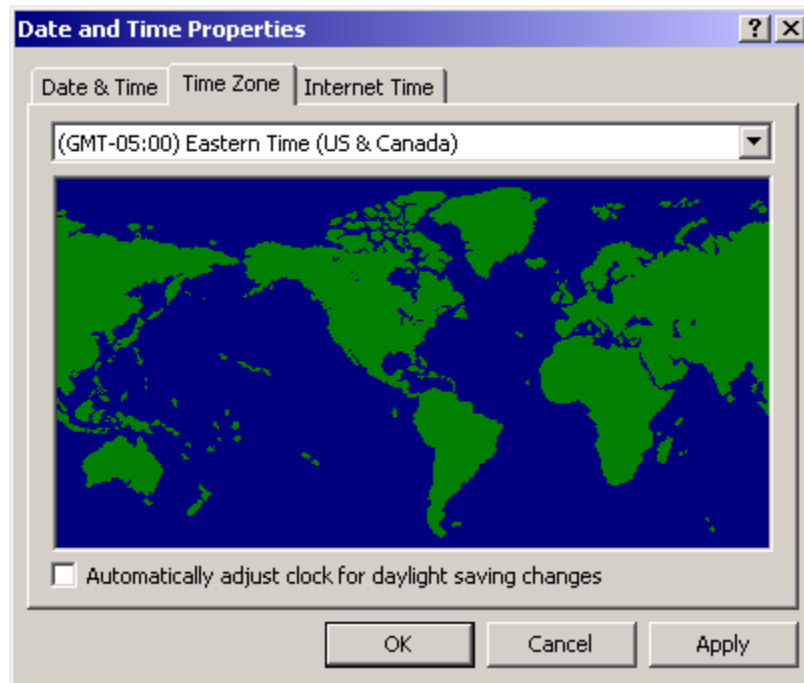

FIGURE 124. Changed Date and Time Properties
5. Select the Time Zone tab on top. This will bring up the window as in Figure 124.